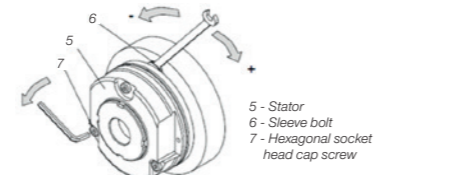
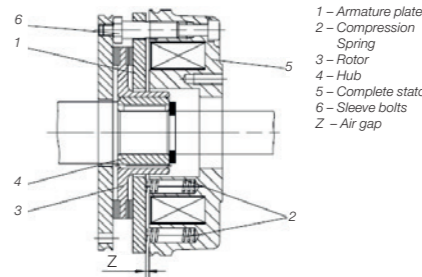

Figure 5 - Air gap adjustment of the sizes 6 to 25
Figure 3 - Cross section of the electromagnetic brake - sizes 6 to 25/4 to 600 Nm
5. Measure the air gap between armature plate and rotor using a feeler gauge (see dimension Z in Figure 3). Compare the measured air gap to the maximum permissible air gap "Z_{máx}" (see Table 3 for applicable values). If necessary, adjust the air gap as follows (see Figure 5):